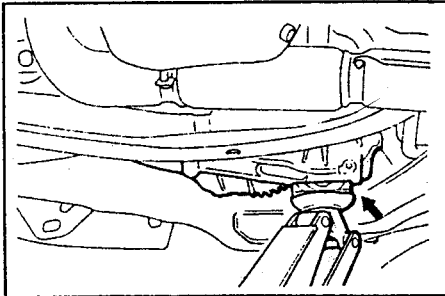

Fig. 7.4. — A diesel engine can be jacked up as shown. Place the jack head under the transmission as shown.
- If a transmission with a diesel engine is removed, place a mobile jack underneath the transmission, as shown in Fig. 7.4 (wooden board between jack head